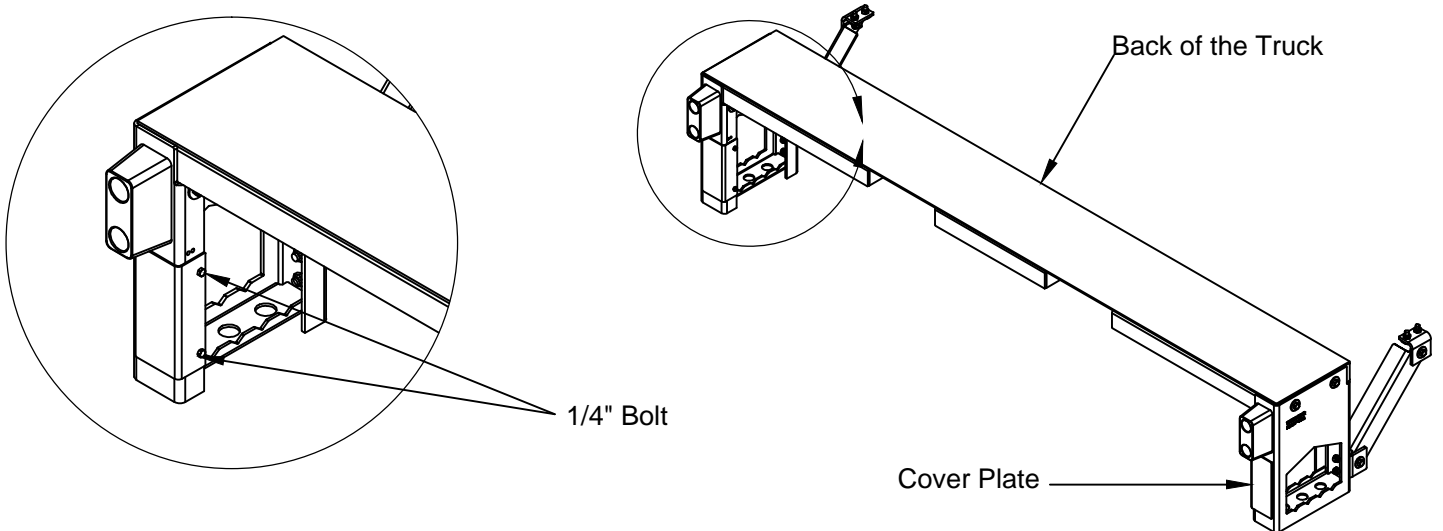

Figure 3: Cover plate location.
3. Remove the cover plate by taking out the two (2) 1/4" hex head bolts on each side with a wrench or socket (Figure 3).